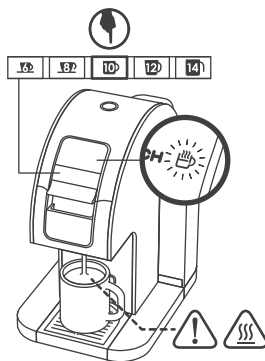

Fig. 5
CAUTION: Extremely Hot Water! (Fig. 5)
6. With the cover closed, press the 10 oz Button to start the brewing cycle. (Fig. 5) The brewing indicating light on the upper right corner will stay ON while the brewer is warming up. Note that the brewer will pump the water to the Water Tank while warming up. This is normal and it may take up to 30 seconds to warm up from a cold start. The brewing indicating light will start to blink when the brewing cycle starts.